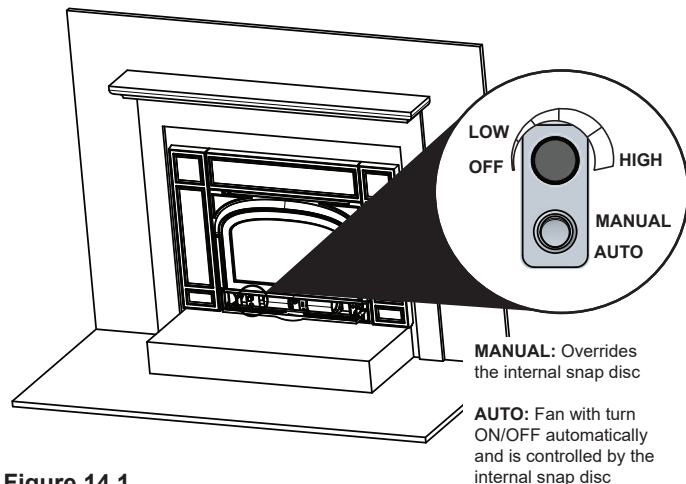

Figure 14.1
1. The blower will turn on/off automatically when set to **AUTO** (**Figure 14.1**).